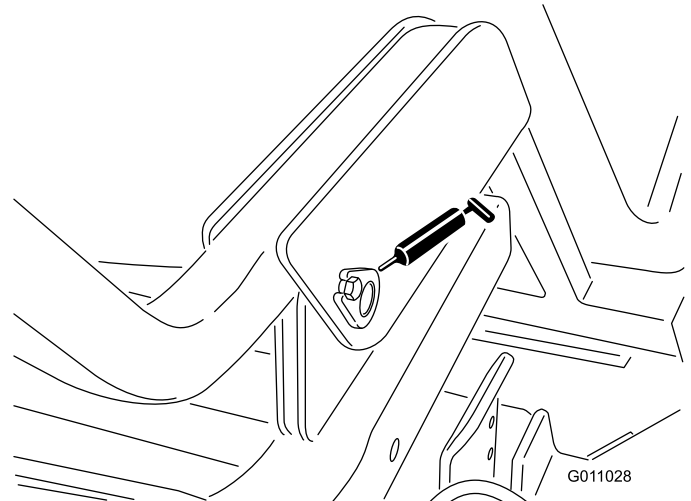

Figure 32
- Hopper pivot (lower) (2) (Figure 32).